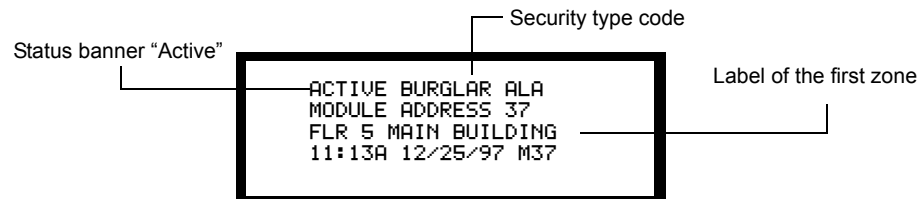

Figure 150 Typical Panel LCD Display in a Security Condition
Program a Monitor Module for a security application	Figure 150 on page 160
Configure the control panel keypad for a security application	Figure 150 on page 160
- The panel LCD display indicates a burglar alarm or door tamper condition (Figure 150).